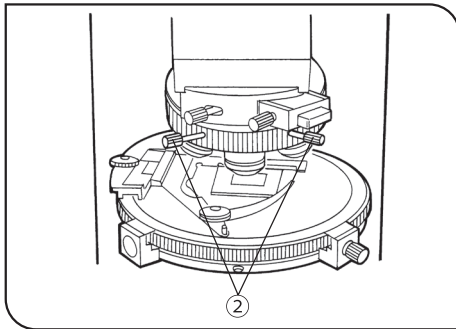

Fig. 27
7. Insert the two provided centering wrenches ② into the centering holes for the primary hole with the 20X or 10X objective on the nosepiece.
8. Manipulate the centering wrenches ② to bring the bright center portion of the conoscopic image into the center of the field of view (Fig. 27)